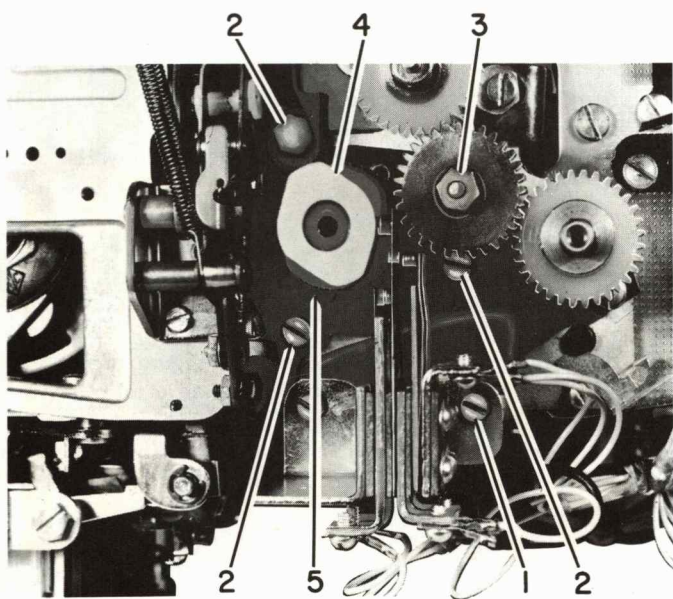

FIGURE 9. Belt Replacement
8. Remove the front screw from the C1 and C2 contact assembly (#1, Figure 9) and swing the assembly down.
9. Remove the bronze intermediate gear (#3, Figure 9).
10. Remove the three bearing plate screws (#2, Figure 9) and remove the bearing plate.